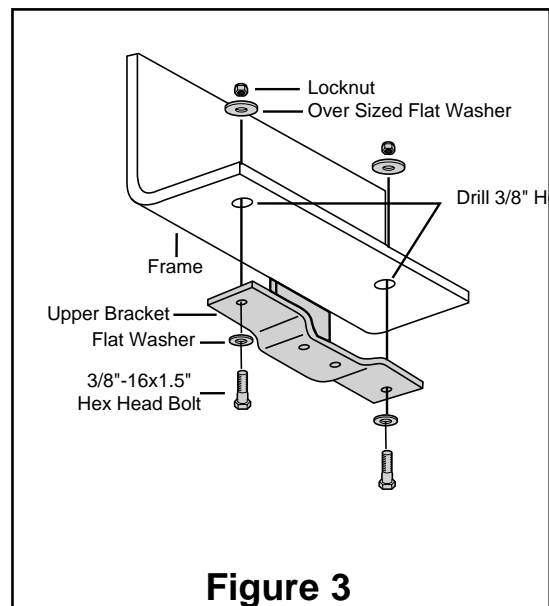

Figure 3
8. Raise the axle or lower the frame until the axle is in the normal ride height (no load) position. Install the upper bracket. You may be able to use the one or both of the existing holes from the jounce bumper bracket. **If not, use the holes on each end of the upper bracket as a template to mark and drill two 3/8" diameter holes in the bottom of the frame rail (Figure 3).** The holes in the upper bracket are slotted for adjustment. Install the 3/8-16x1.5" HEX HEAD bolt in the REAR hole, flat washers and locknut. Install the 3/8-16x1.5" CARRIAGE bolt in the FRONT hole, flat washer and locknut. **LEAVE LOOSE AT THIS TIME.**